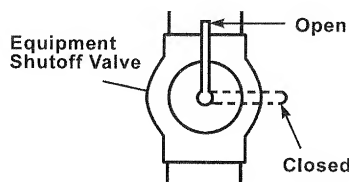

Figure 14 - Equipment Shutoff Valve
1. Close equipment shutoff valve (see Figure 14).
1. Open equipment shutoff valve (see Figure 14).